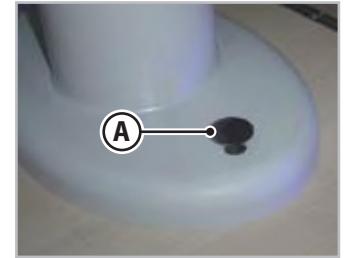

Fig.6.21 - Telescopic leg
1. Use your foot to press the button (**A** - Fig.6.21) at the base of the table.